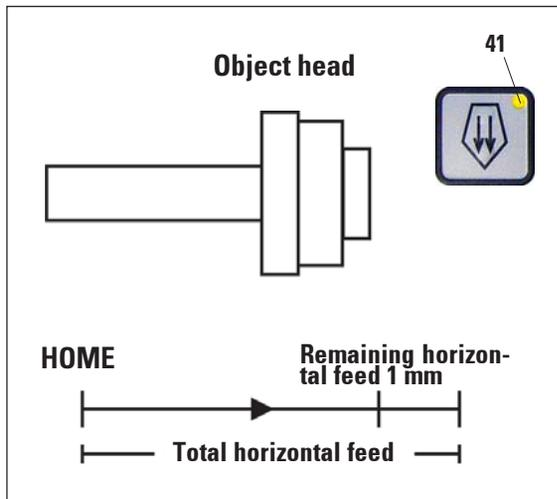

Fig. 16
The yellow LED (41) in the **COARSE FEED** button lights up (Fig. 16).